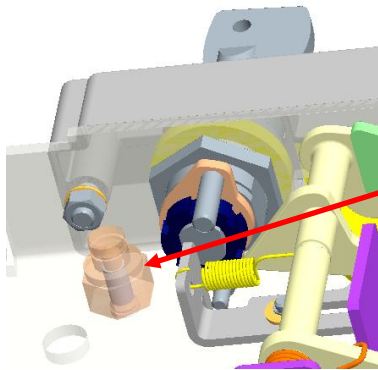

Figure 9
- Assembly the front lock support on threaded pin in base plate (Fig 9)